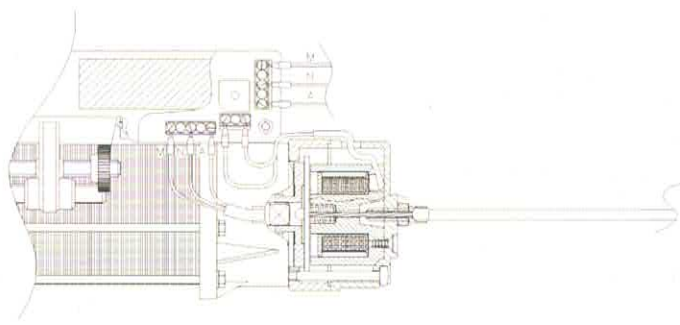

Figure 4
- 16) Connect the power supply cable to the limit switch respecting the right direction (see figure 4).
- 17) Close the limit switch through the plastic cover (Z) and then tighten with the two screws checking the correct disposition of the cables (see figure 4).